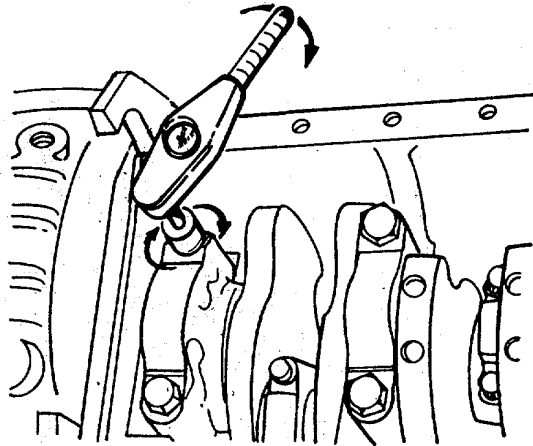

FIGURE 4-76. Torque Steps.
i. Torque capscrews to the values as shown in the following steps. (FIGURE 4-76)